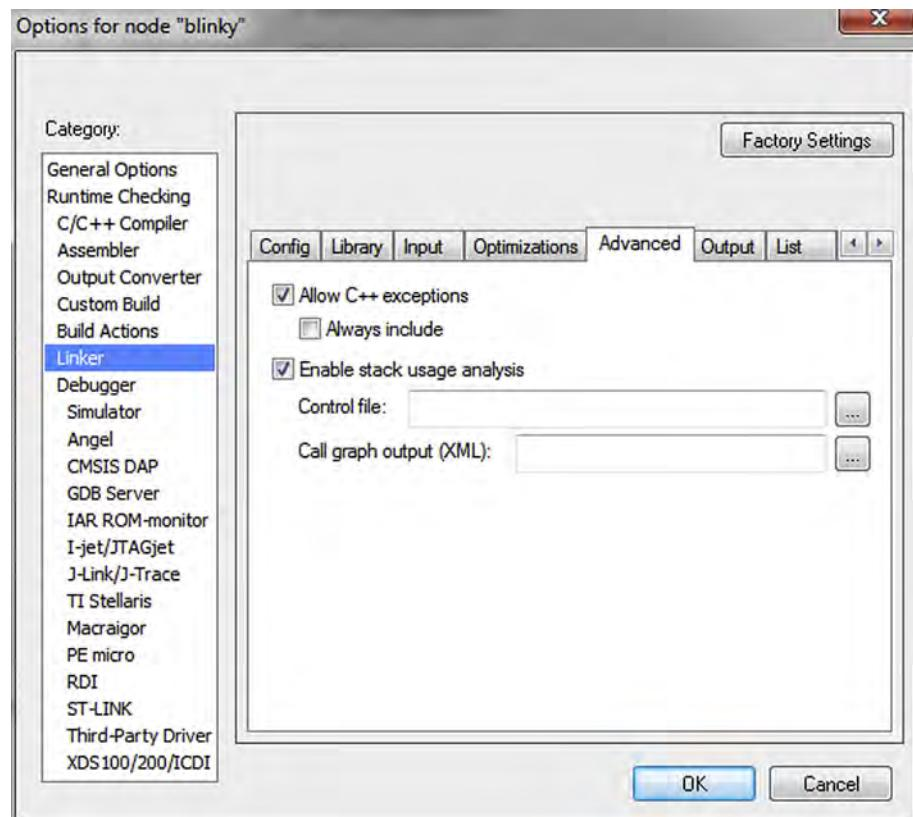

Figure 15.21
2. Enable stack analysis (Figure 15.21)